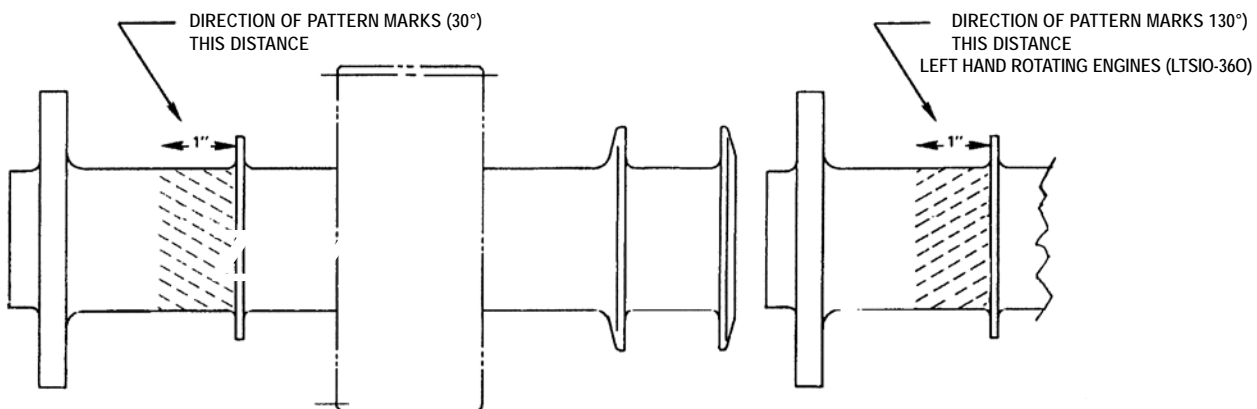

FIGURE 1
- D. Remove any plating in the 1" area pointed out in Figure 1, by holding a piece of very fine emery cloth around the shaft and rotating the engine with the starter. This should blend the finish uniformly without leaving any lines (scratches). Top spark plugs should be removed to allow smooth, even rotation during the polishing operation.
- E. Apply helix as indicated in Figure 1 using a strip of 180 grit emery cloth approximately 1/2" wide. Do approximately 1/4 of the surface indicated in Figure 1 at a time, stroking the cloth outward toward the propeller flange in the direction of rotation (CCW towards you using maximum hand pressure) which should result in a 30° pattern similar to that illustrated in Figure 1. After doing the first portion, engage the starter just long enough so that the next portion is visible. Apply the same pattern again and continue completely around the crank or prop shaft in this manner.
NOTE: On left hand rotating engines (LTSIO-360-E) the helix must be applied in the opposite direction as shown in Figure 1. Stroke the strip of emery cloth outward toward the flange in the direction of rotation...(CW toward you using maximum hand pressure).